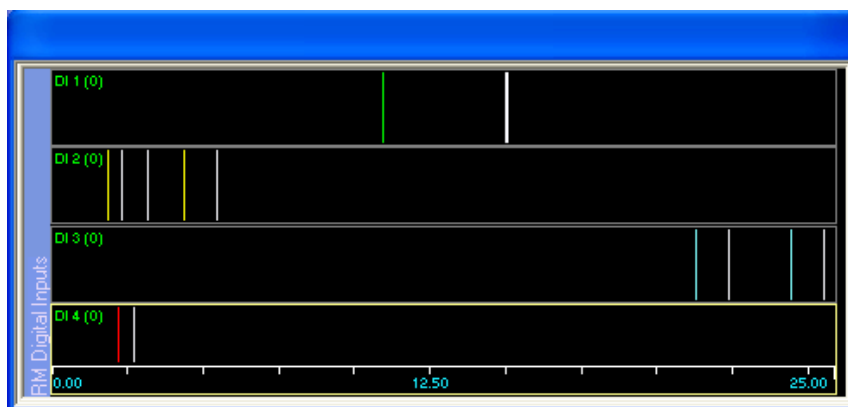

Figure 26 – Single-Bit Digital Inputs Display
The basic AlphaLab SnR system comes with 4 digital (standard TTL) inputs located on the Main Processing Unit. A second set of 4 digital inputs may be optionally added to the Signal Integration Unit. These channels may be displayed in one or more groups. For each channel, a colored tic mark indicates going to active high (1), and a white tic mark indicates the change to active low (0). It is possible to optionally display only 1's or only 0's for any channel. The last status of every channel is also displayed by the channel label. *Figure 26* below shows an example of how 4 digital inputs are displayed.